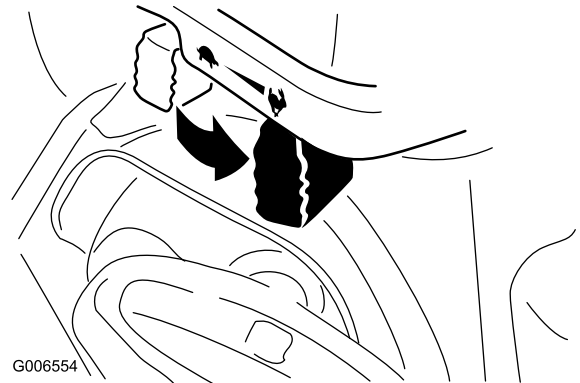

Figure 28
6. Move the throttle to the Fast position (Figure 28).